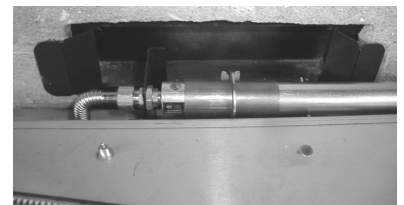

Figure 11D
6. To position the adjustable venturi collar into its mounting bracket, gently push the bracket back far enough to slip the flange on the collar into the slot on the bracket. Figure 11D.